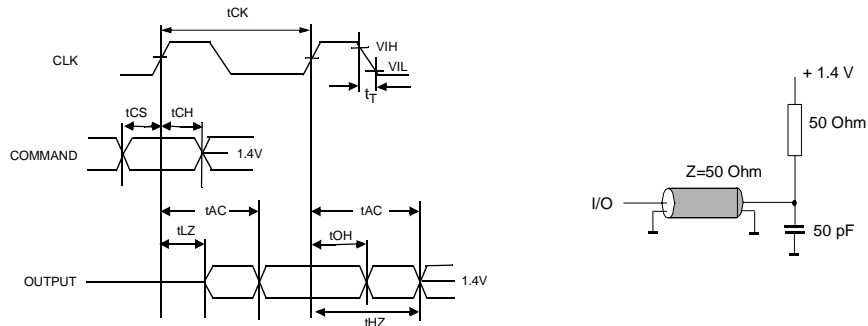

Figure 1.
2. AC timing tests have $V_{IL} = 0.4V$ and $V_{IH} = 2.4V$ with the timing referenced to the 1.4 V crossover point. The transition time is measured between V_{IH} and V_{IL} . All AC measurements assume $t_T = 1ns$ with the AC output load circuit shown in Figure 1